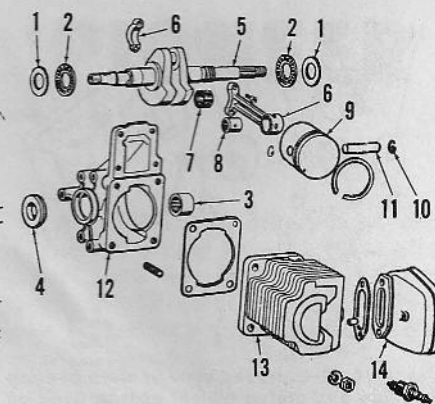
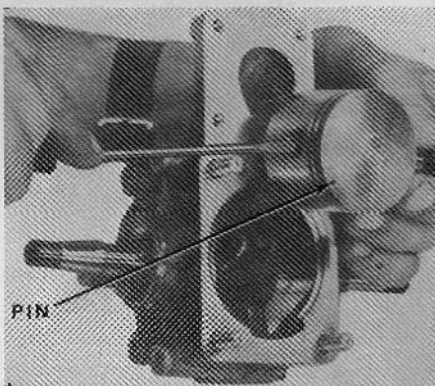
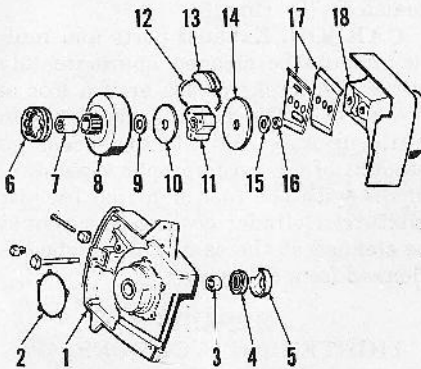

Fig. PR4-5—Exploded view of the crankshaft, crankcase and cylinder typical of all models.
Fig. PR4-6—Ring locating pin must be away from exhaust port side of cylinder as shown, when installing the piston to the connecting rod.
Fig. PR4-11—Exploded view of clutch used on models with automatic chain oiler. Parts shown in Fig. PR4-4 are located in main bearing housing (1) shown above.
Compression pressure at cranking speed should be approximately 130-140 PSI with engine cold. Cylinder and cylinder head is one piece and is attached to the crankcase with four stud nuts. Piston pin can be withdrawn after removing retaining clips (10—Fig. PR4-5). Cylinder bore diameter is smaller for 1110 model than others. The cylinder bore of most models is chrome plated and cylinder should be renewed if plating is worn away exposing the soft base metal. The following repair specifications are in inches.
Piston rings on most models are pinned to prevent rotation in the grooves. Make sure that ring locating pin (Fig. PR4-6) is located on the magneto side. The opening in the piston pin retaining clips (10—Fig. PR4-5) should be toward the closed end of piston.
The crankcase (12—Fig. PR4-5) should be heated before installing new main bearing (3). Main bearing housing (1—Fig. PR4-10 or Fig. PR4-11) should be heated before installing main bearing (3). Lip of seals (4) should be toward the bearings (3). Lip of magneto seal (4—Fig. PR4-5) should be toward inside. Crankshaft needle thrust bearings (2) and washers (1) should limit crankshaft end play.
CLUTCH. Different types of clutches have been used (Fig. PR4-10 and Fig. PR4-11). Bearing (7) should be lubricated with a small amount of Mobil Sovarex No. 1W or Shell Alvania No. 2 lubricant before installing clutch drum and bearing on crankshaft. Ends of garter spring (12) should be connected together and located at the middle of a clutch shoe. Do not have the spring connection between clutch shoes.